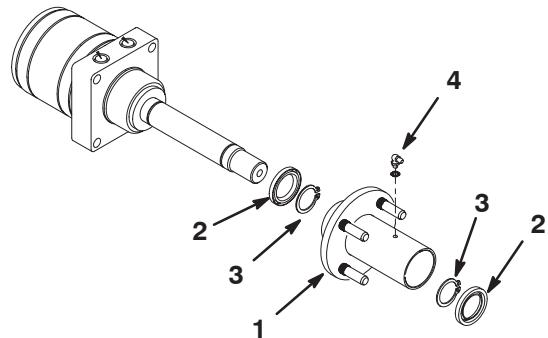

Figure 2
- Remove the grease seal and snap ring from the long end of the hub (Fig. 2).
- Remove the snap ring and grease seal from the other end of the shaft and remove the hub from the shaft (Fig. 2).
- Grease inner edge of the new grease seals with No. 2 multipurpose lithium base grease. Slide one seal onto motor shaft past groove closest to the motor. Install snap ring into groove (Fig. 2).